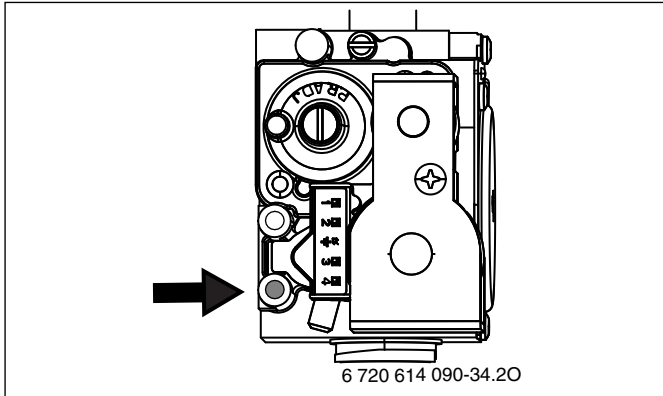

Fig. 63 Dynamic gas pressure test port
- ▶ Loosen the screw in the test port for gas inlet pressure (→ Fig. 44, [1]) and connect a pressure gauge (→ Fig. 63).